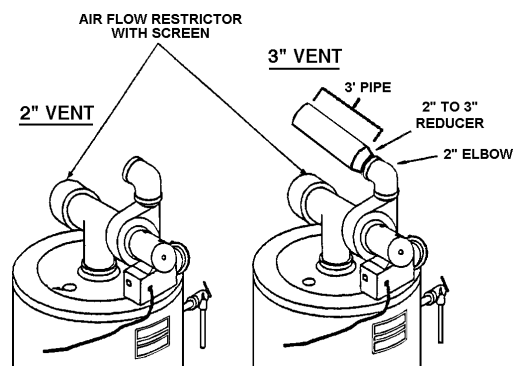

FIGURE 5
3. Make sure there is no packing material in the discharge of the blower or the intake of the dilution air restrictor. See Fig. 5 for description of blower parts.